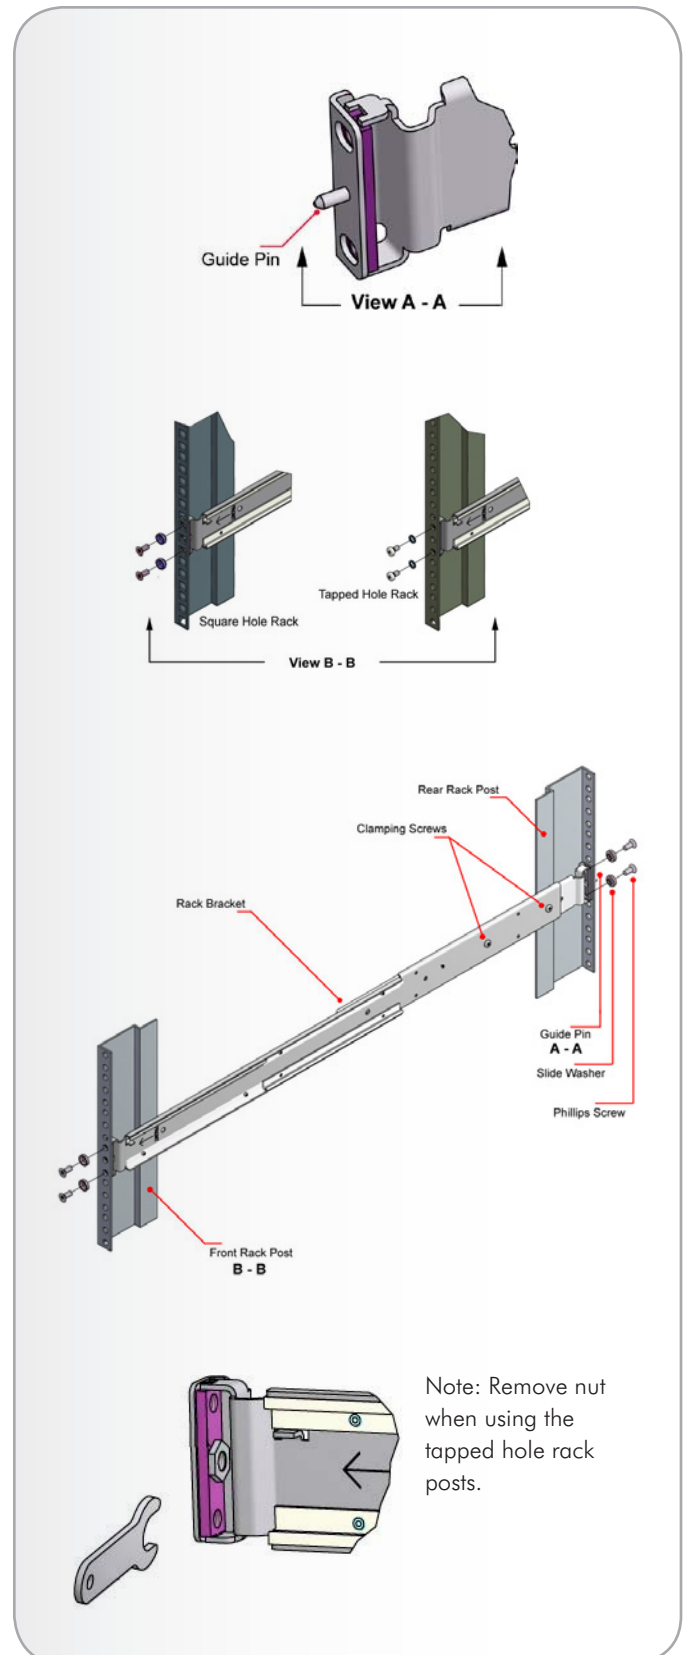

Fig. 28 - Securing Brackets to Rack - Left Hand Assembly Shown
3. Assemble the rack brackets to the rack posts as follows. The brackets are universal and will fit either side (Fig. 28).